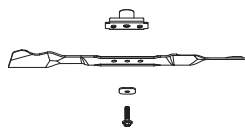
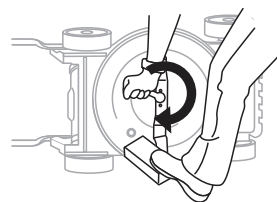

Fig.14B
Fig.14C
- Align the washer over the blade and insert the hex bolt. Tighten the hex bolt to the torque (Fig.14B/Fig.14C)